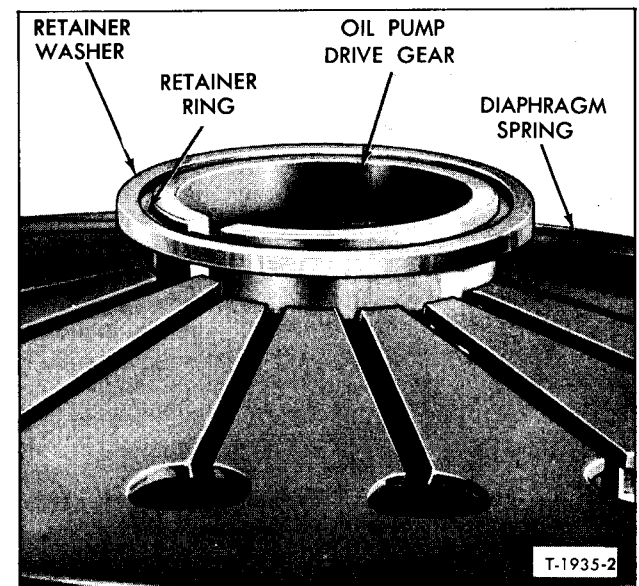

Figure 4—Clutch Release Bearing and Thrust Ring Assembled on Oil Pump Drive Gear
1. Install release bearing inner race (15), release bearing (21), and release bearing outer race (15) on hub of oil pump gear as illustrated in figure 4.
2. Install thrust ring assembly in hub of oil pump drive gear with pin pointing away from gear (fig. 4). Apply lubricant to release mechanism to provide lubrication initially.